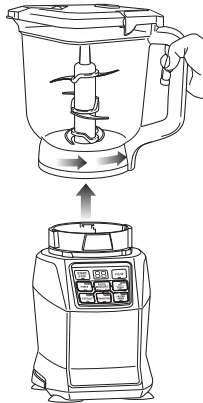

Fig. 7
- 14 Turn the pitcher counter clockwise to remove and then lift off the base. **(Fig. 7)**